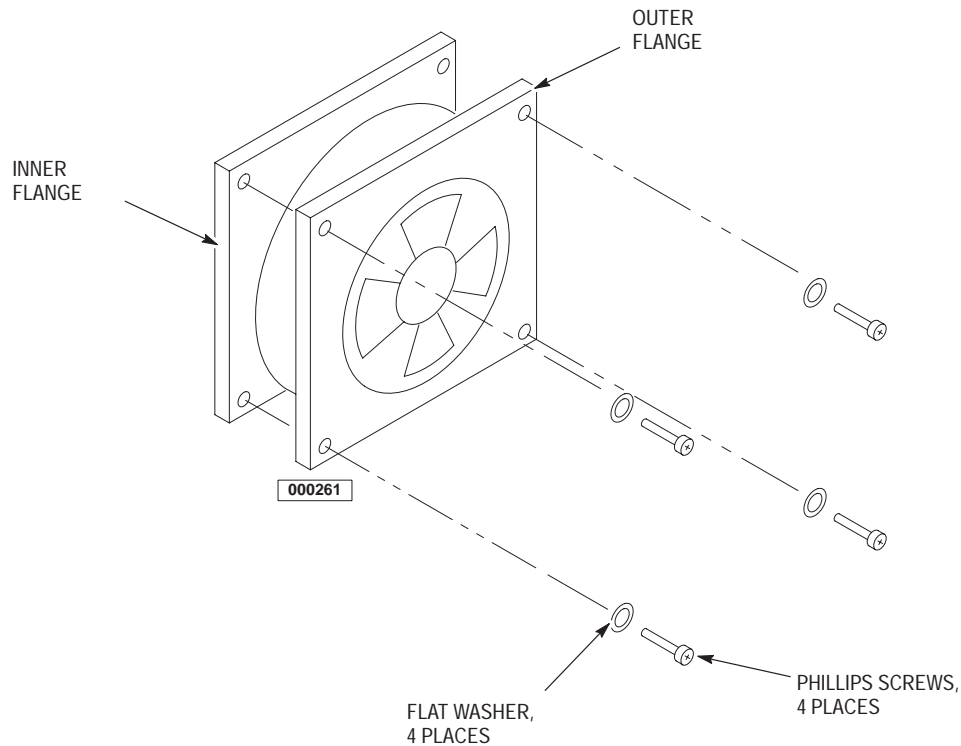

Figure 11-7. Fan Assembly and Grill.
7. Use a Phillips screwdriver to remove the four screws that fasten the fan assembly to the frame. Refer to Figure 11-7 for a detailed view. Save the screws and the four flat washers.